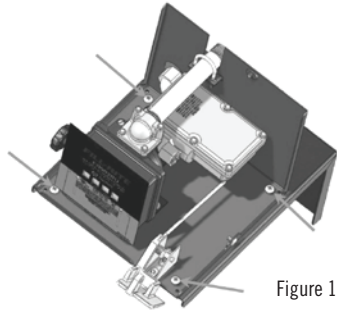

Figure 1
4. Place dispenser on mounting plate; using the 4 - 5/16 x 18 screws, nuts, and grommet washers, screw the dispenser securely to the mounting plate through the 4 holes located in the bottom of the dispenser cabinet base (Figure 1).